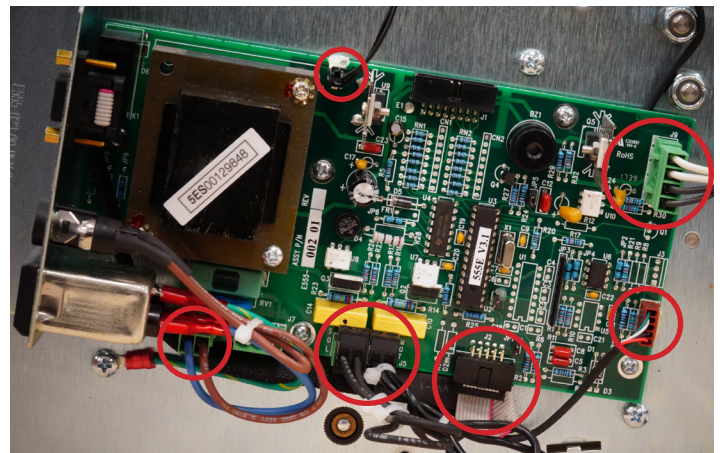

Figure 17-1
5. Disconnect all connectors (Figure 17-1)